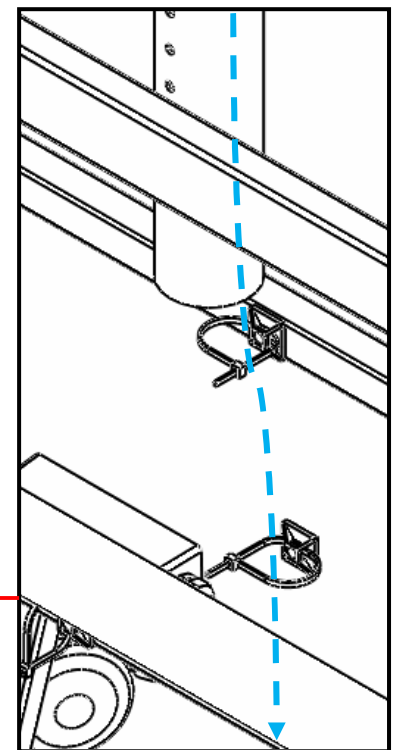

Figure 15.3
- 2) When wires tie down after Vertical Tube (2) (see figure 15.3), choose either direction (3) or (4) to locate the switch. Use cable ties to tight the wires.